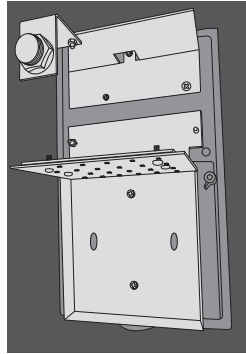

Figure 2
4. Take off the aluminium reflector inside (Be careful your safety) (Figure 2)